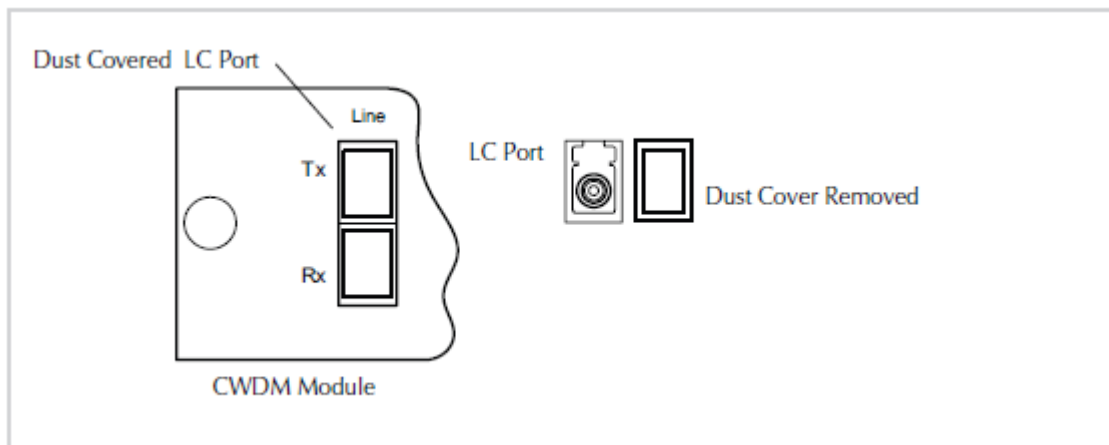

Figure 9: LC Port and Dust Cover
1. Remove the protective cover from the port. See Figure 9.